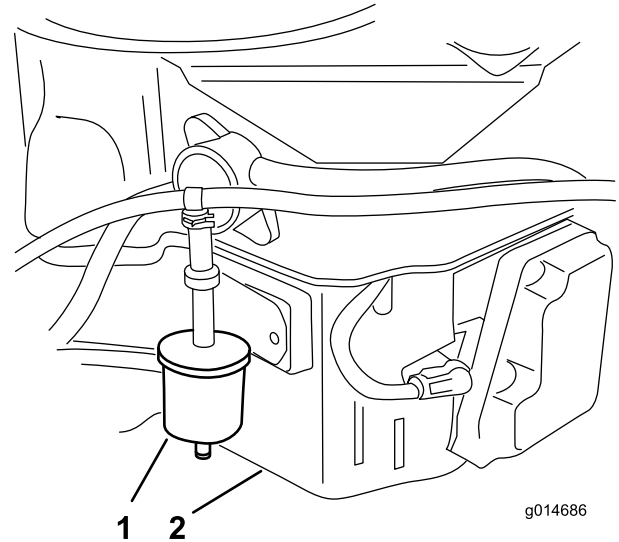

Figure 37
3. Remove the existing fuel-vent filter (Figure 37).